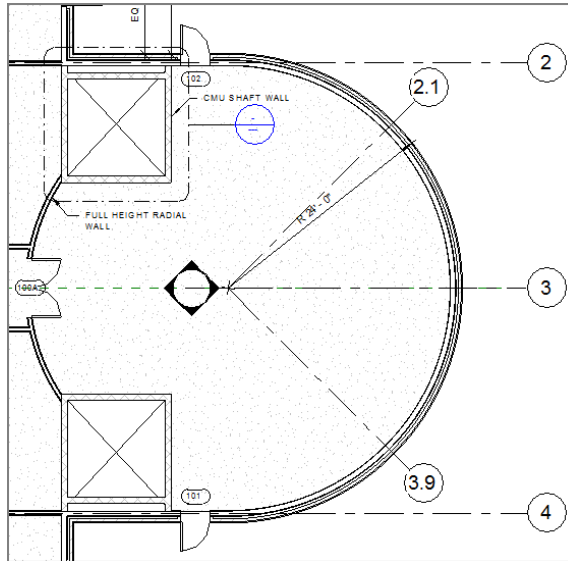

FIGURE 8.8: Adding two additional grids and renumbering them
3. Draw the line at a 45° angle until you're beyond the radial wall, as shown in Figure 8.8.
6. Renumber it to read 3.9 (see Figure 8.8).